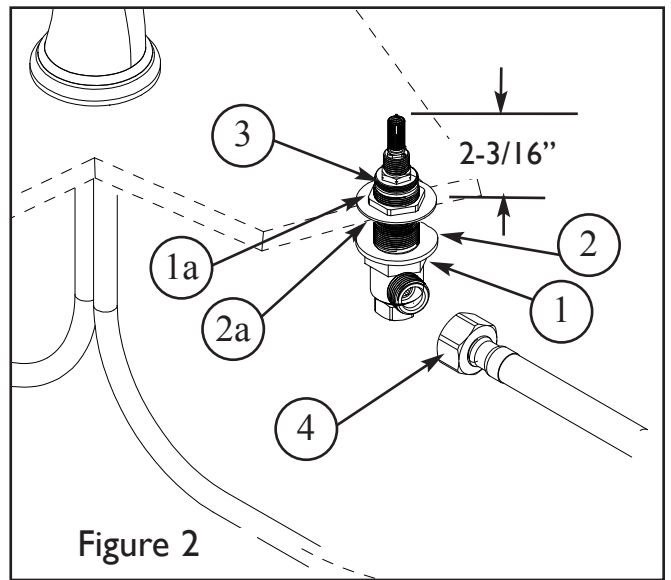

Figure 2
2. Place flange NUT (1) and fiber WASHER (2) onto valve BODY (3). Insert valve BODY (3) through sink hole from underside of sink. Valve BODY (3) should extend 2-3/16'' above mounting surface. If necessary adjust lower flange NUT (1). Place fiber WASHER (2a) and flange NUT (1a) onto upper position of valve BODY (3). Set valve BODIES (3,3A) so that their outlets are facing towards the center of the sink and tighten upper flange NUT (1a). See Figure 2.
3. Connect HOSE (4) to outlet of each valve BODY (3,3a). (Red to HOT and Blue to COLD). Hand tighten and secure each HOSE (4) with a wrench 1/4 turn. See Figure 2.